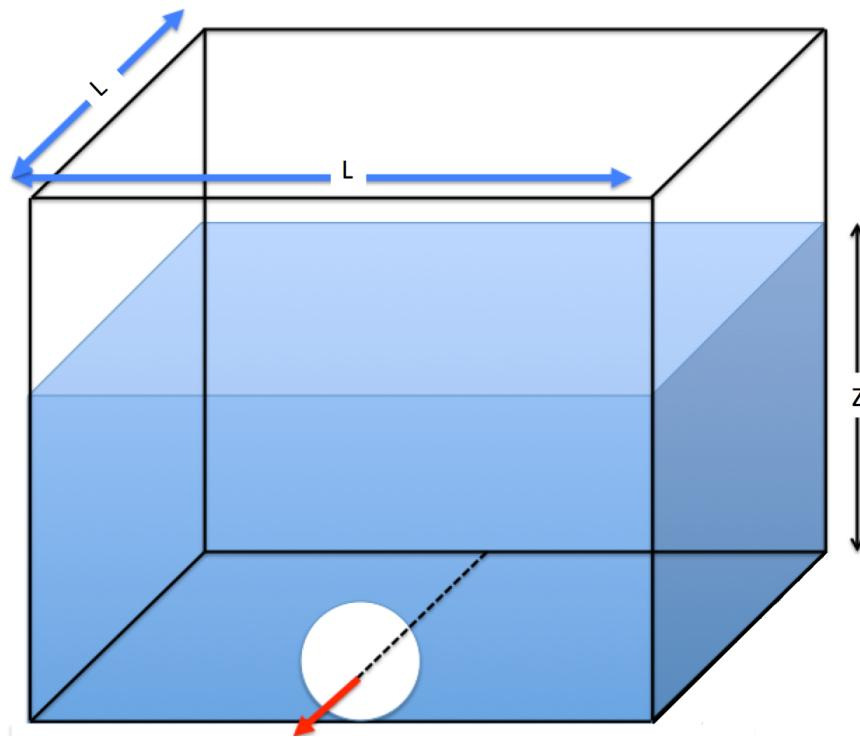

Figure 2: Square detention pond
6. Figure 2 is a square (plan view) detention pond. The initial depth in the 1 acre (plan view) ($L = 208.71$ feet) is $Z = 9$ feet. What is the average outflow rate in cubic-meters-per-second, if the pond drains through the hole in the side in 24 hours?